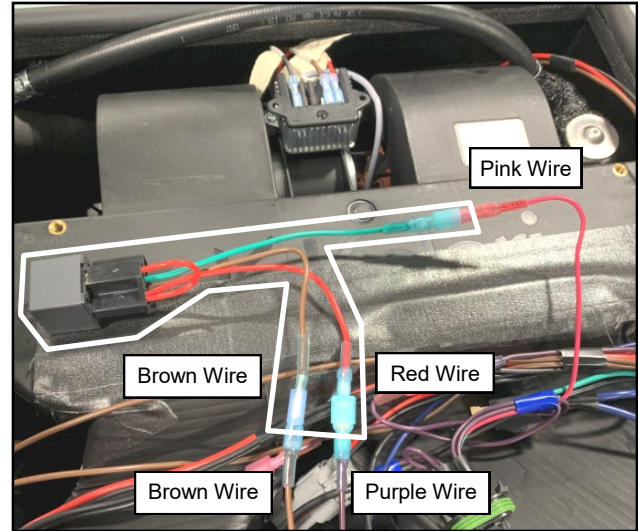

Fig. 1.9 (Connect Controller Jumper Harness)
- 1.9** Connect the Controller Jumper Harness' brown and purple wires to the brown and red wires found on A/C Power Supply Wire Harness per fig. 1.9. Connect the Controller Jumper Harness' green wire to the A/C Unit's main control harness' pink wire as shown in fig. 1.9.